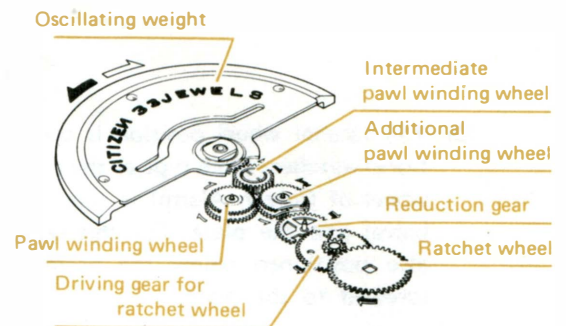

Fig. 5
- The rotation of the oscillating weight is converted into a fixed direction rotation by 2 pawl winding wheels through the intermediate pawl winding wheel and upon speed reduction at the reduction wheel and the driving gear for the ratchet wheel, it is conveyed to the ratchet wheel for mainspring winding (Fig.5).